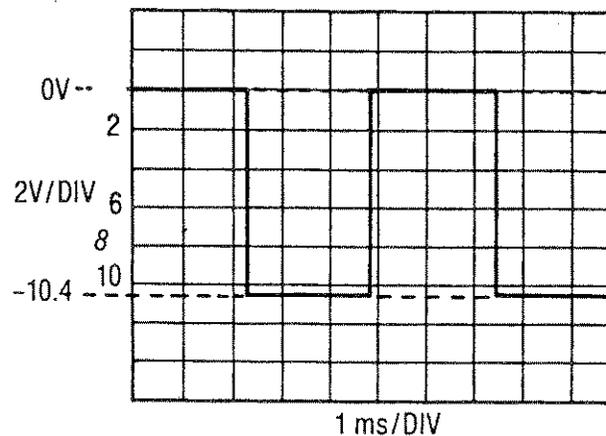

Figure 8-16. Phase Detector Drive
2. The phase detector drive is not as shown in Figure 8-16 at test point A4TP5 or A4TP6. Refer to A4 Input Amplifier Assembly on Service Sheet 6.